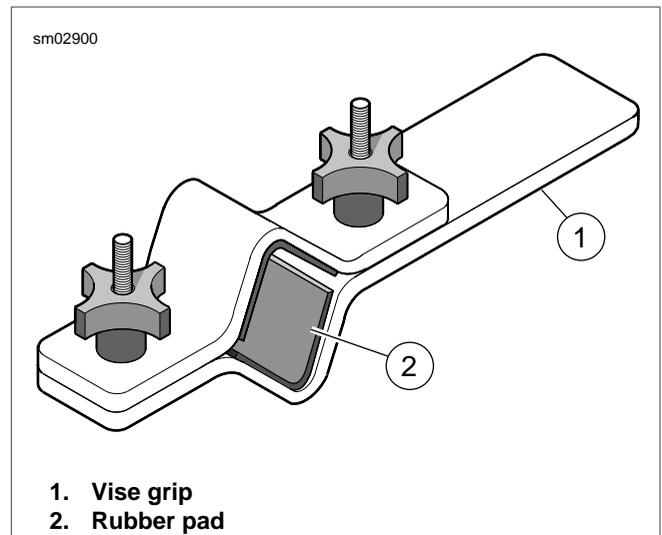

Figure 2-57. Fork Tube Holder (HD-41177)
3. Obtain the FORK TUBE HOLDER (Part No. HD-41177). See Figure 2-57. Proceed as follows: